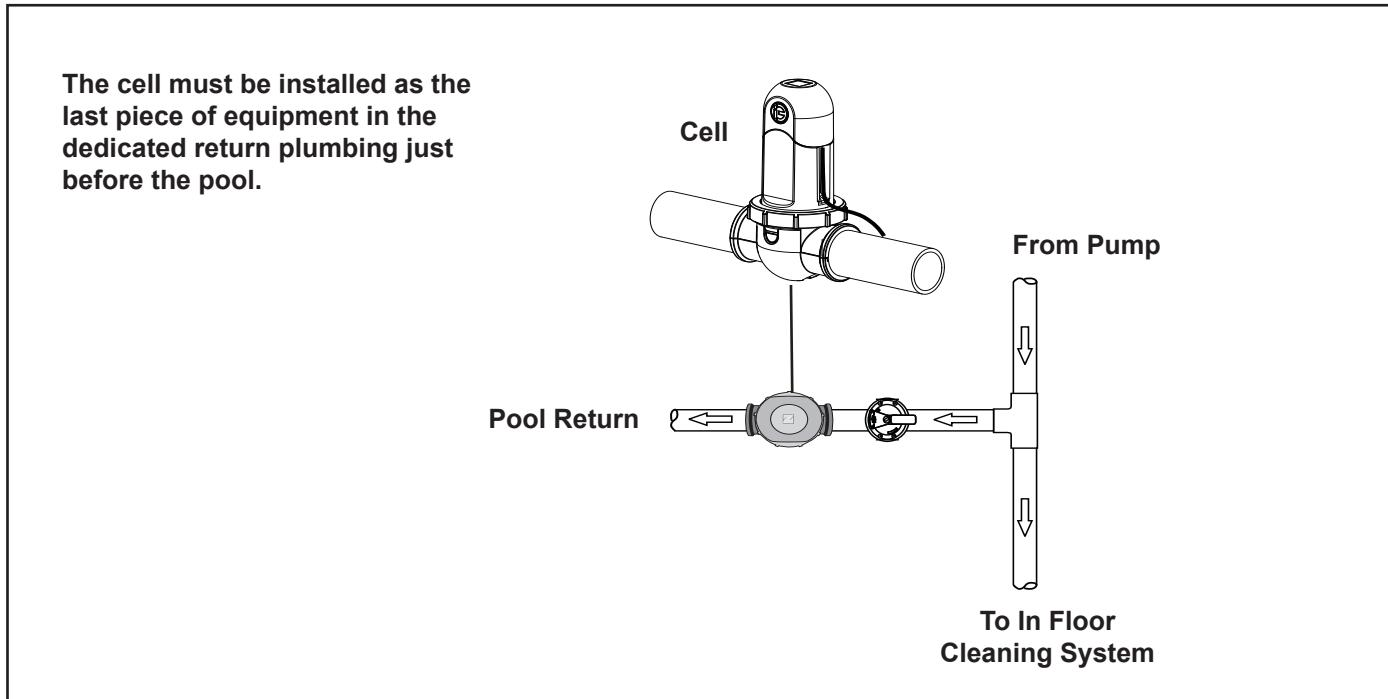

Figure 23. New Pool Plumbing for In-Floor Systems
**NOTE** Do not install the chlorinator on in-floor systems that do not have a dedicated pool return as shown in Figure 23.